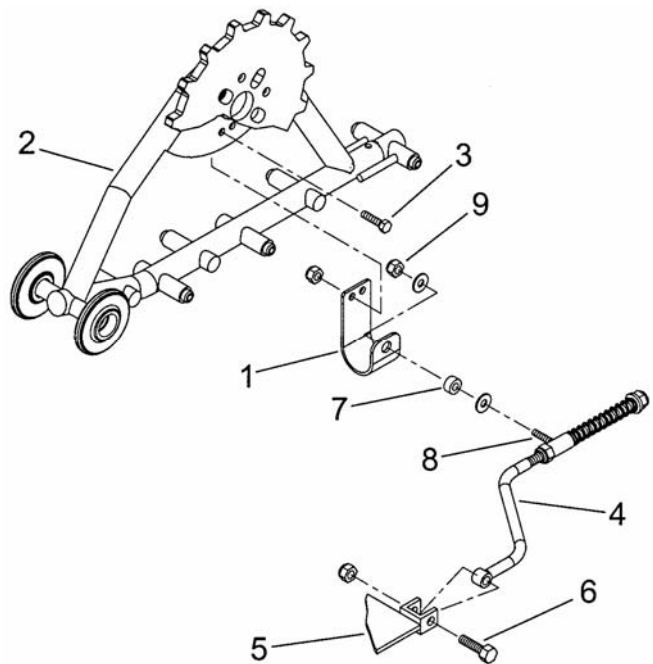

FIGURE 2
5. Fit the «J» plate (FIGURE 2, # 1) to the tubular frame (FIGURE 2, # 2) with two 7/16" NC x 1 1/4" LG hex bolts (FIGURE 2, # 3) and two 7/16" NC nylon nut
6. Fit the stabilizing rod (FIGURE 2, # 4) to the adapting plate(s) (FIGURE 2, # 5), starting under the vehicle, with the hex bolt 7/16" NC x 2 1/2" LG (FIGURE 2, # 6) and a 7/16" NC nylon nut.
7. Fit the other end of the stabilizing rod (FIGURE 2, # 4) to the «J» plate (FIGURE 2, # 1), install the wear-pad (FIGURE 2, # 7) first in the «J» plate, then a 7/16" DIA flat washer on both sides, slide tee threaded rod (FIGURE 2, # 8) through the «J» plate and screw in the 7/16" NC nylon nut (FIGURE 2, # 9) after applying anti-slip ( Loctite ).